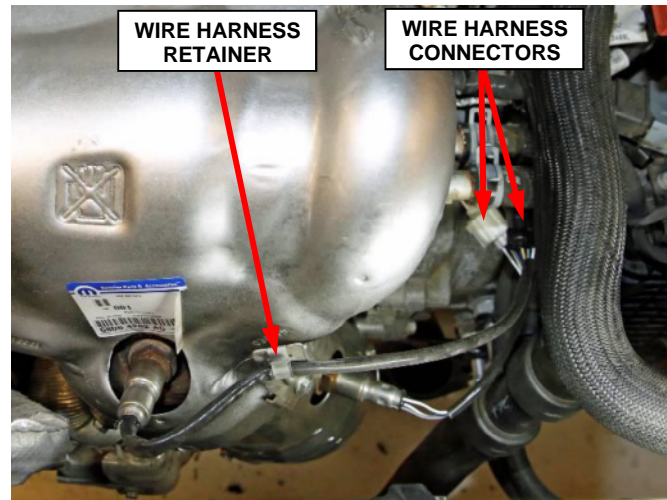

Figure 26 – Oxygen Sensors Electrical (UF) Chrysler 200, (BU) Jeep Renegade, (KL) Jeep Cherokee, (FB) Fiat 500X, (VM) Ram Promaster City
40. Connect the upstream oxygen sensor and downstream oxygen sensor wire harness connectors (Figure 26 or 27).
41. Install the upstream oxygen sensor wire harness to retainer(s) (Figure 26 or 27).